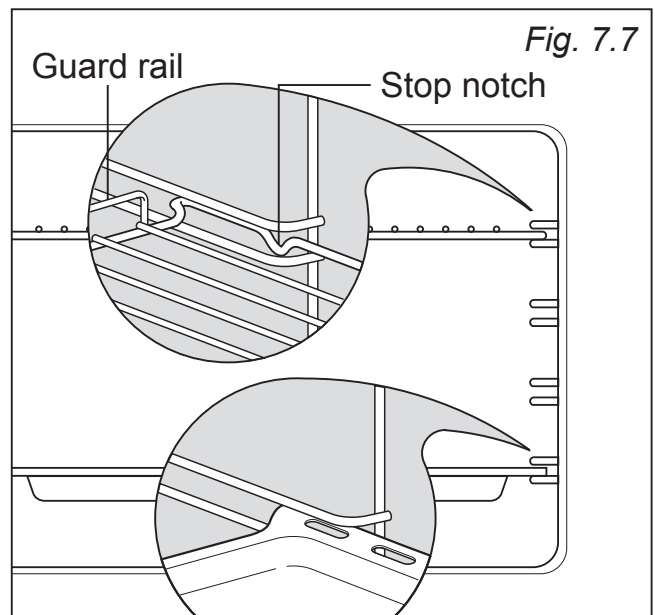

Fig. 7.7
- Slide the rack and the tray into the runners (fig. 7.7).
The rack must be fitted so that the safety catch, which stops it sliding out, faces the inside of the oven; the guard rail shall be at the back (fig. 7.7).